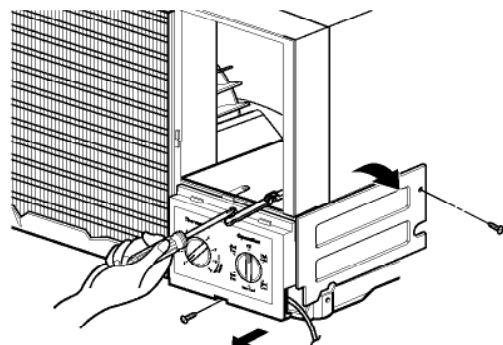

Figure 3
8. Remove the 2 screws which fasten the control box.(See Figure 3)
10. Re-install the components by referring to the removal procedure, above. (See Figure 3) (Refer to the circuit diagram found on page 24, in this manual or on the control box.)